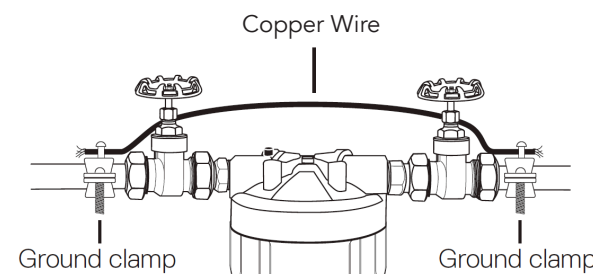

Figure 3
5. When installing on metallic plumbing: Securely install two grounding clamps and a #4 copper wire across the location where the system will be installed, tightly clamping it at both ends as shown in figure 3.